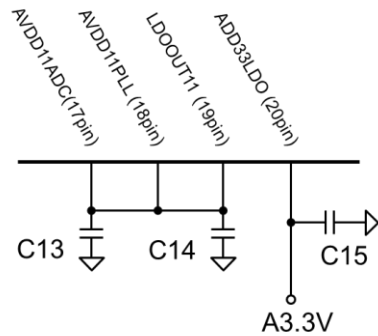

Figure 2-8 Example of an external LDO circuit
- Figure 2-8 shows an example of an external LDO circuit, and Table 2-4 shows an example of its circuit constants.
- As shown in Figure 2-8, place the decoupling capacitors in the immediate vicinity of the power supply terminal.